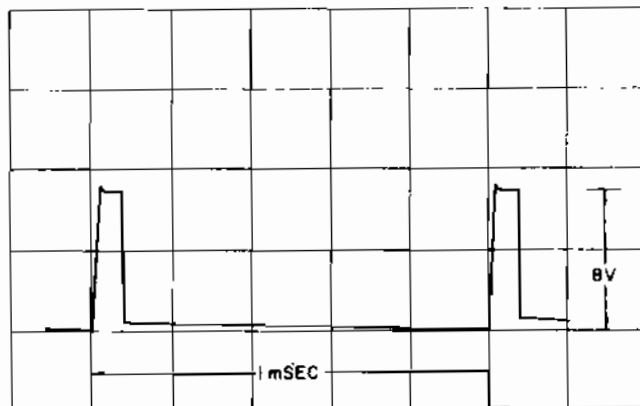

FIGURE 6.18 - WAVEFORM AT
r. Compare the waveform and amplitude at the side of R43 connected to the collector of Q13 with that in figure 6.18.